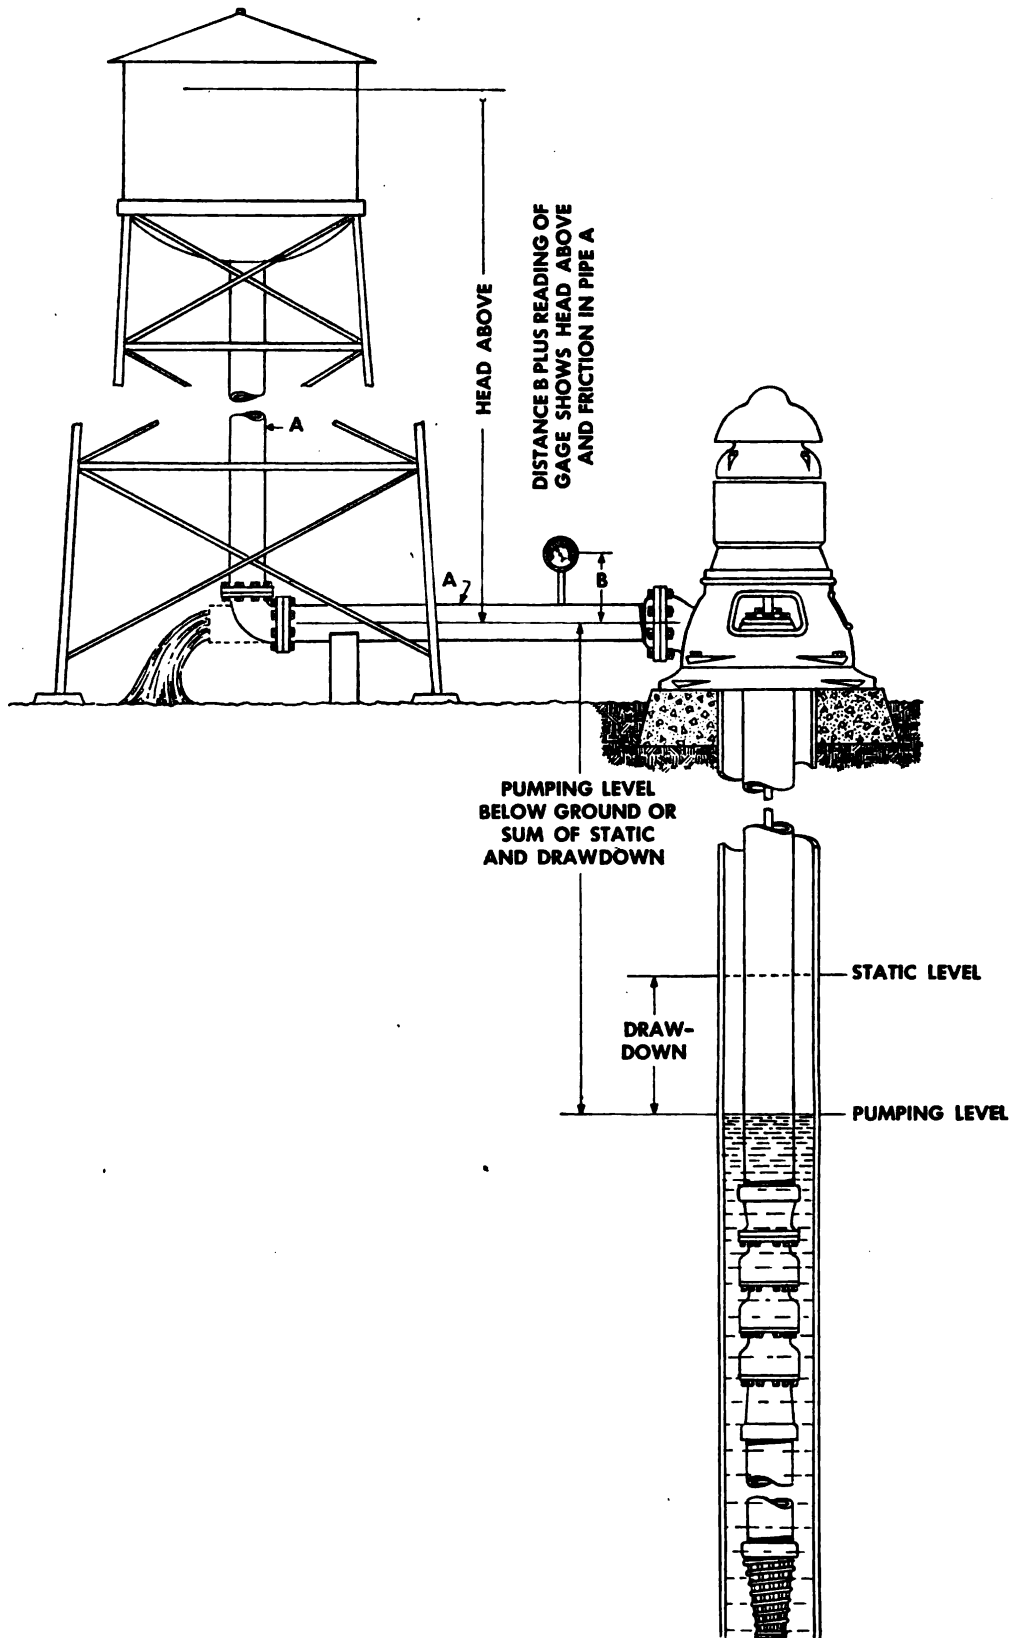

Figure 32. Measuring total head.
(1) When unit is operating against above-ground head, compute total field head, not including pump column friction by adding lift in well or pumping level to total head above ground. Lift in well equals static level in well plus drawn-down. Total head above ground equals gauge reading in feet, including friction in pipe line *A*, plus distance *B* (fig. 32). If no gauge is available, measure head above ground in feet and add estimated pipe-line friction.
(2) With no head above ground (dotted lines, fig. 32), compute total field head, not including pump-column friction, by adding draw-down to static level in well.